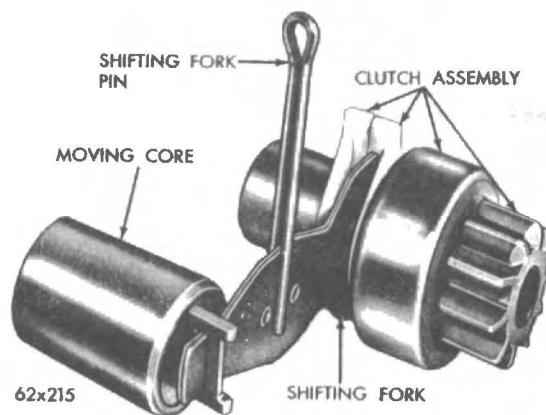

Fig. 21 Shifter Fork and Clutch Arrangement
(5) Complete the installation of the pinion shaft engaging the shifting fork with the clutch actuators (See Fig. 21).